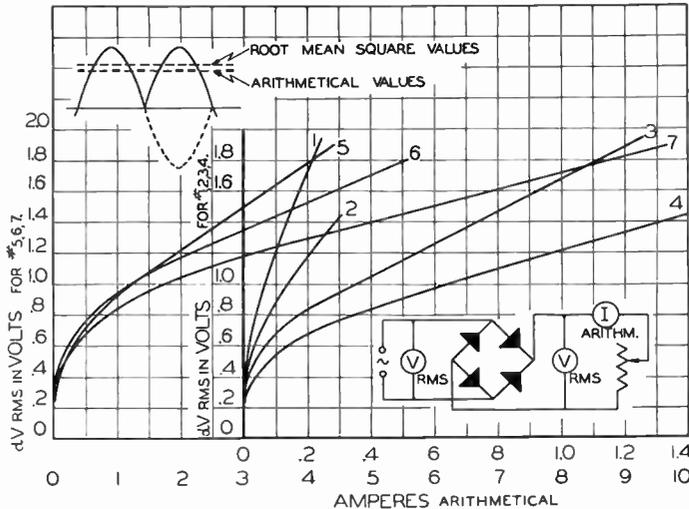

FIG. 5. CHARACTERISTICS OF BASIC PLATES OF 3/4, 1, 1 1/4, 2%, 3%, 4% INS. DIAM.
**Design of Stacks by Direct Values** ★ After choosing the size of plate with proper current-carrying capacity, the internal voltage drop of the plate is considered. Fig. 5 illustrates the average, experimentally determined, internal voltage drop for seven plates in either bridge or center tap, single phase circuits. The voltage drop per plate, designated as  $dv$ , is one-half of the differ-
$V_p$  for Plate No. 7 is 14, and  $d v$ , as read off characteristic No. 7 in Fig. 5, is 1.29; hence,
Using the data given in Tables I, II, and III, and the internal voltage drop per plate illustrated in Fig. 5, any single phase selenium rectifier can be designed and the
**Designs by Relative Values** ★ The foregoing example and reference to Fig. 5 characteristics apply only to the single phase, bridge, and center tap designs with either inductive or resistive loads. With condenser and battery charging loads, even in the above-mentioned circuits, intermittent loading on the selenium plates occurs with periodic values of the forward current
greater than the periodic values for the same DC output feeding resistive or inductive load. Voltage drops per plate are, therefore, greater in the former case. Applications occur, however, where the voltage drop per plate is smaller than the values shown in Fig. 5. An example is the three-phase circuit where the rectified current is practically at the peak value of the applied alternating current. The output current density per plate in these circuits is considerably higher than in the case of a single-phase bridge circuit. Furthermore, the type of load, whether it be resistive, inductive, capacitive, or battery charging, has practically no effect on the voltage drop per plate.